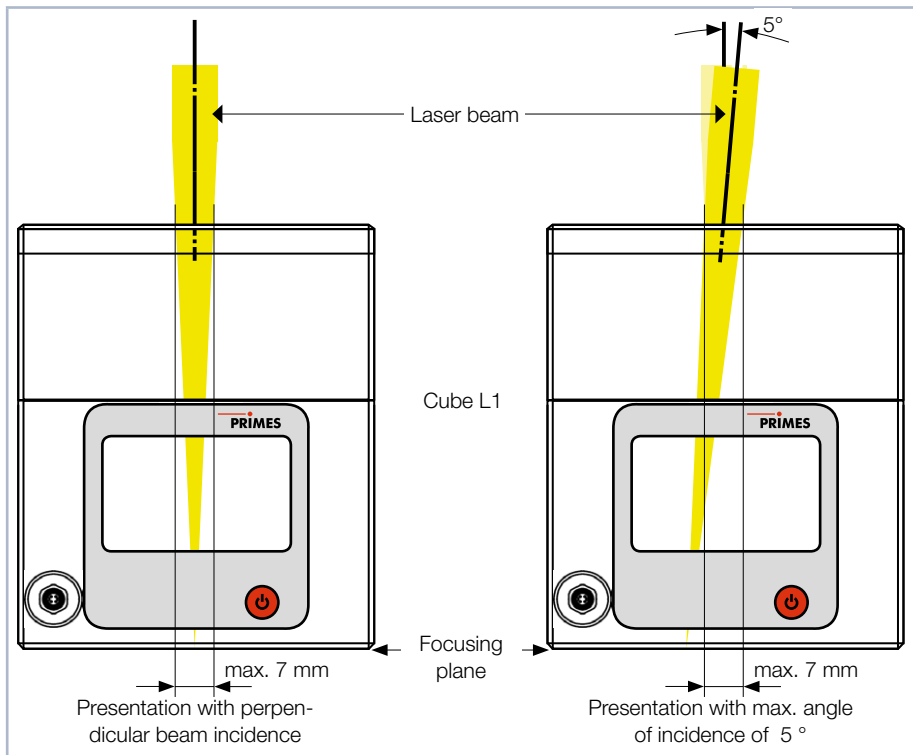

Fig. 8.1: Alignment to the laser beam
The device is positioned above the focus (see Fig. 8.1 on page 16). Make sure that the laser beam is convergent and the maximum permissible power density at beam entrance is not exceeded. The focal position of the laser beam must be located on the lower edge of the device.
1. Align the device with the laser beam as described in chapter 8.3 on page 16 and Fig. 8.1 on page 16.